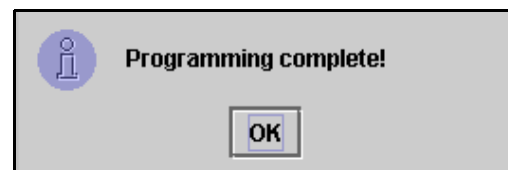

FIG. 54 Programming complete screen
3. Do not program another tank level monitor until you get the **Programming complete!** message shown in FIG. 54. If you program a tank level monitor and it appears to be successfully programmed at the tank but you didn't get the programming complete message at the PC, Graco recommends you reprogram the tank level monitor. This ensures that you do not get two tank level monitors programmed with duplicate parameters, which will cause unpredictable system behavior.